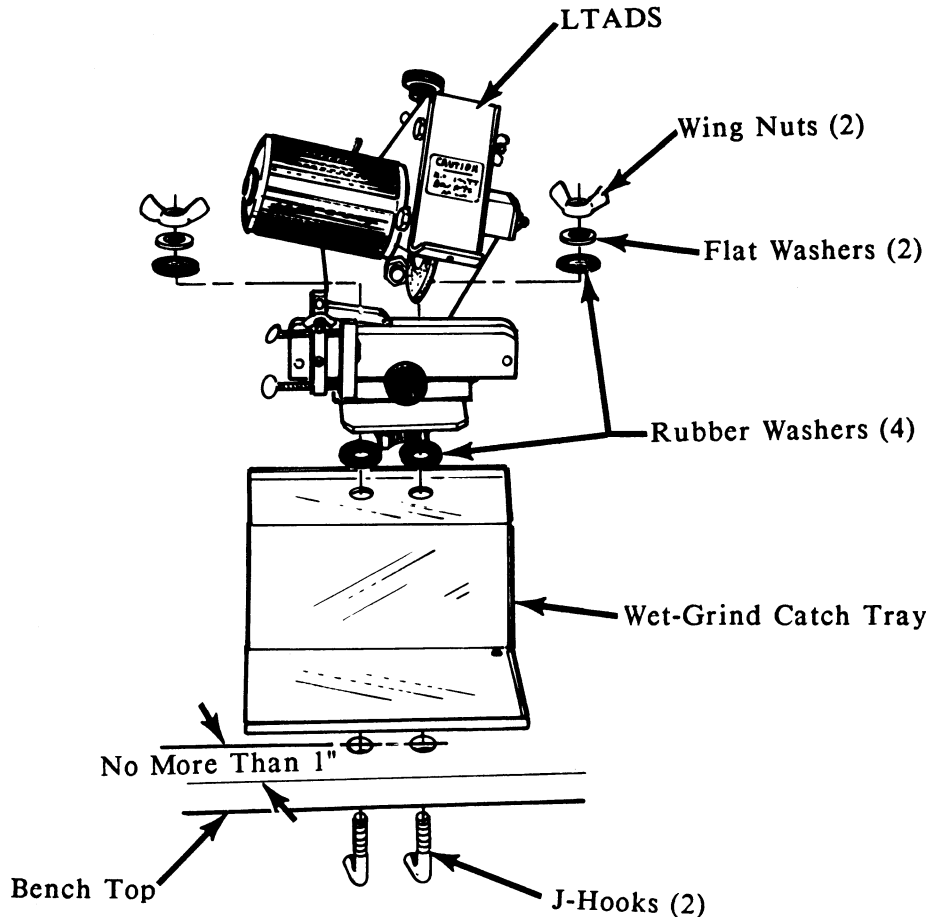

FIGURE 2
1. For use where 115 volts is available, mount the grinder solidly on a bench or table using the two mounting holes in the grinder base. The mounting holes should be no more than 1" back from the front edge of the bench to allow mounting of the wet-grind catch tray. Mount the grinder so there is at least 32" clearance to the rear and to each side of the grinder to allow enough room for the blade supports. Use the "J" hooks, steel and rubber washers, wing nuts, and wet-grind catch tray to mount the sharpener to the bench top as shown in Figure 2.